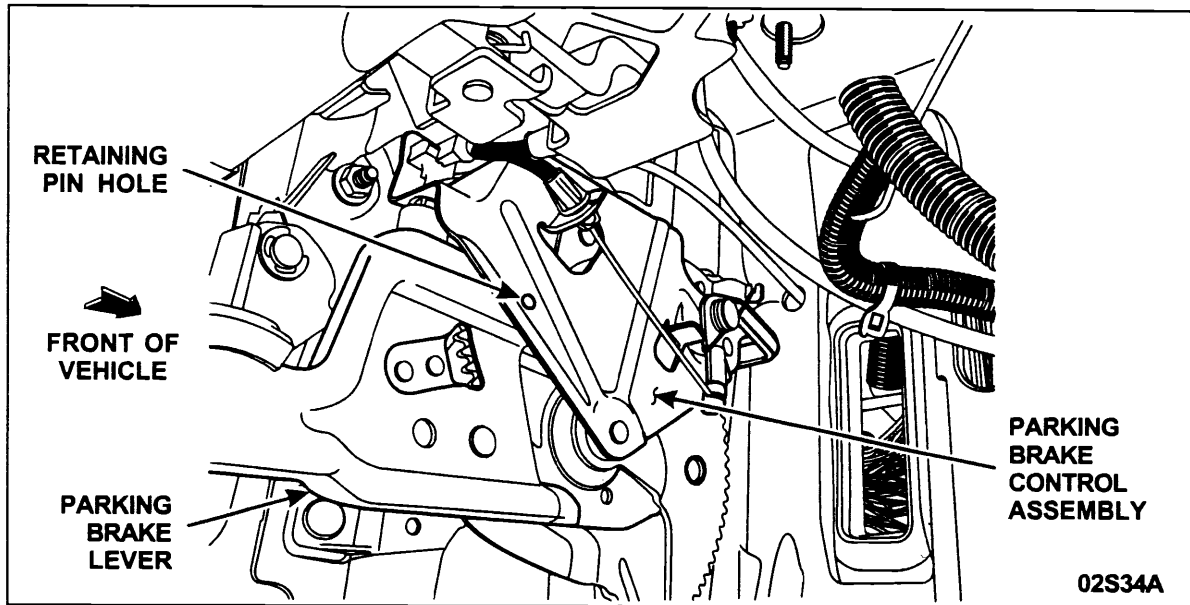

FIGURE 1
5. Relieve the tension on the parking brake system by having an assistant pull the front parking brake cable from under the vehicle while you insert a suitable retaining pin in the parking brake control assembly. See Figure 1.